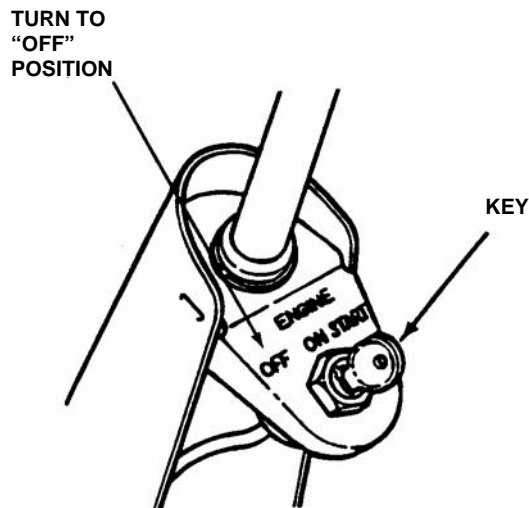

FIGURE 2.13
1. Stop engine by turning key to the "OFF" position. See Figure 2.13.